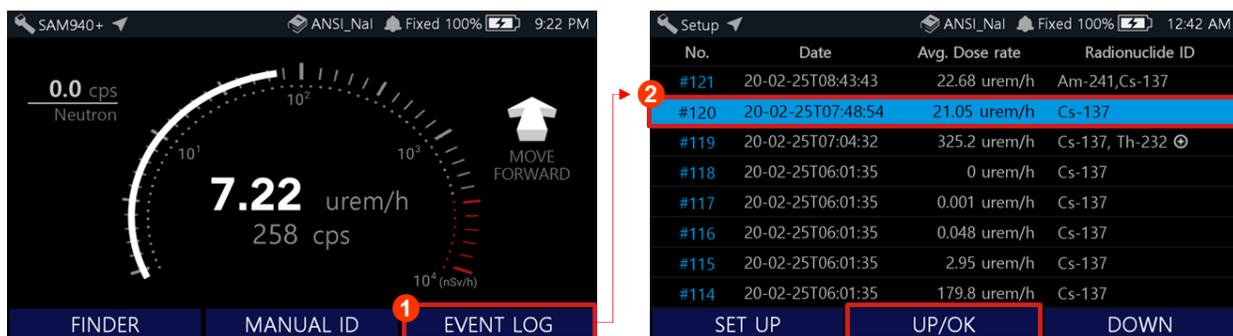

Figure 6.1.1. Access to Event Log
Saved event files can be assessed by selecting the **EVENT LOG** as shown in figure 6.1.1.
1. To open the Event Log, select **EVENT LOG** from the Gauge Screen (Figure 6.1.1.):